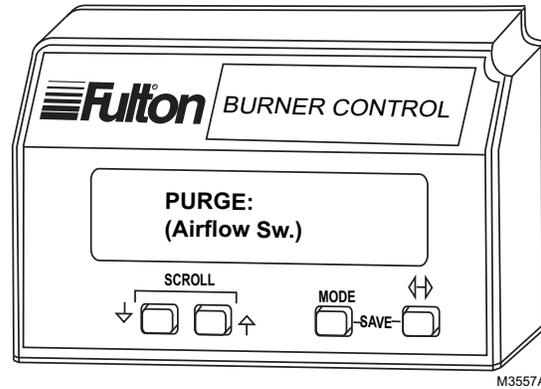

Fig. 3. Lockout message state 3.
3. State 3, see Fig. 3. Display of the third state message lasts three seconds. It is a replica of the burner status as it existed at the time of the lockout. The second line is